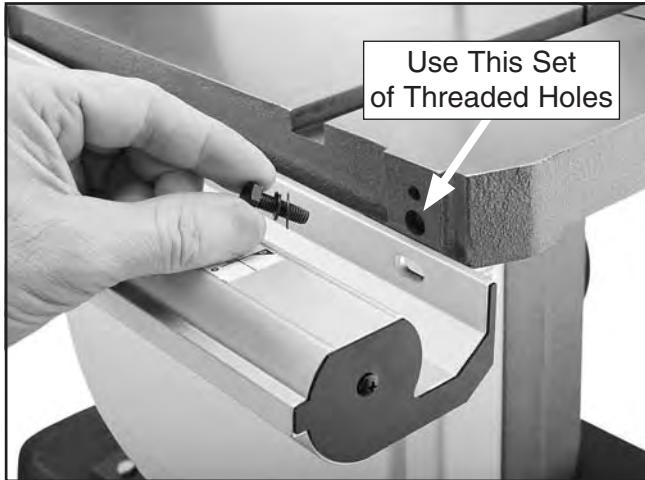

Figure 18. Attaching the front fence rail.
15. Attach the front fence rail to the table with the (2) M6-1 x 20 hex bolts, (2) 6mm lock washers, and (2) 6mm flat washers (see **Figure 18**).